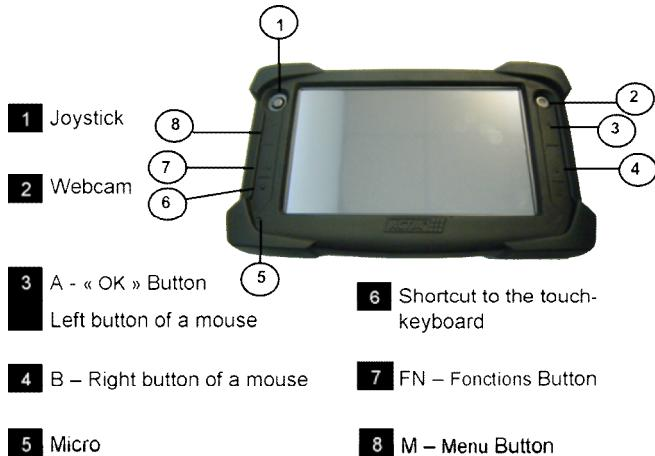

Fig. 3 – Buttons and lights
- Before Windows re-installation is necessary connect the USB splitter with at least 2 USB ports self-powered for connection of the keyboard and DVD drive. When you install Multi-Diag Office, you can already use the virtual keyboard, that can be launched as is on Fig. 3.